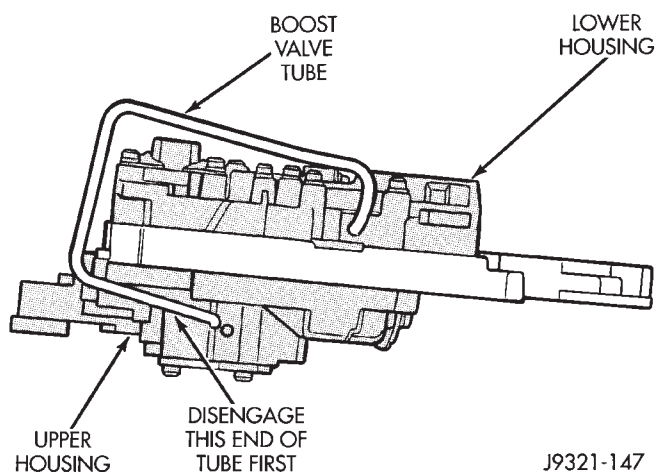

Fig. 62 Boost Valve Tube
(28) Remove boost valve connecting tube (Fig. 62). Disengage tube from upper housing port first. Then rock opposite end of tube back and forth to work it out of lower housing.